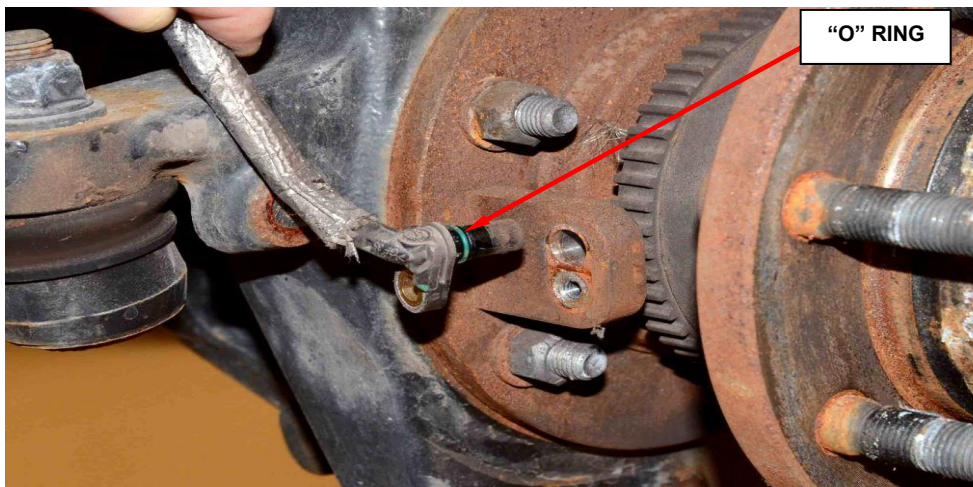

Figure 4 – Wheel Speed Sensor
8. Remove the wheel speed sensor; make sure “O” ring is still attached to the sensor (Figure 4).